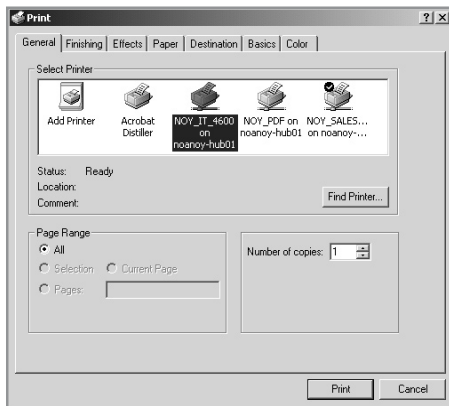

Figure 6-2: Print Dialog Box.
- From the [File] menu, select the [Print] command. The [Print] dialog box will be displayed (see Figure 6-2).